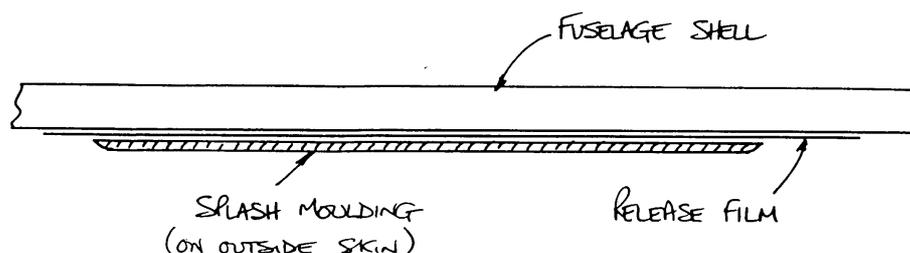

Fig 3. Lay-up of 'splash'
Cut and carve pieces of scrap foam to fit between the door apertures as detailed in figure 3. Thoroughly scuff sand the area around where they will fit and squidge them in position with floc, then immediately layup three plies of 'bid' at $\pm 45^\circ$ to cover the foam and run on to the surrounding structure by approximately 3 cm (1-1/4"). Cover with peel ply and, having made sure the moulding is properly supported and not twisted, allow to cure before disturbing.
1. Cover the area where the access panel will be with plastic sheet to act as a release film. Lay-up a "splash" (a thin glassfibre moulding), to be used as a mould to make the panel from, onto the release film - (figure 3).